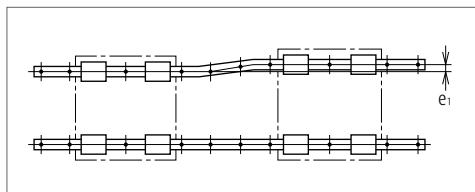

Fig. 5
- Figs. 5 and 6 are representing the mounting errors of e_1 and e_2 . Their permissible values are shown in the description of the installation of each series.